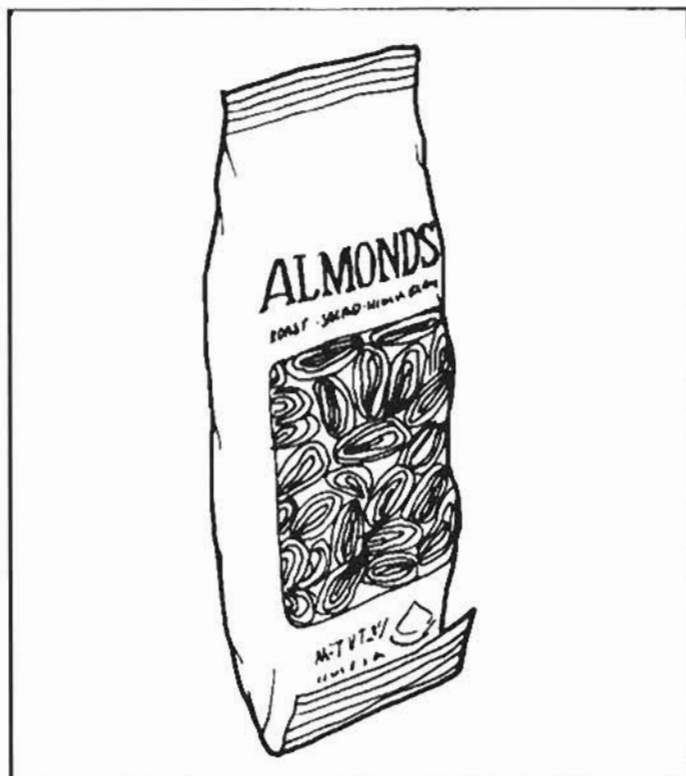

Figure 8. FOLD BAGGED ITEMS BOTTOM EDGE FORWARD AND UP.
10. BAGGED OR BOXED ITEMS in the 10-selection shelves if not loaded properly could be a problem. The sealed edge of the bag may get under the spiral wire causing the product to hang up after it has been vended. It is recommended that the lower edge of these types of product be folded forward and up (see Figure 8) next to the product before inserting into the spiral space. It is also recommended to use an 18 count spiral for bagged items because of the product settling to the bottom of the package.